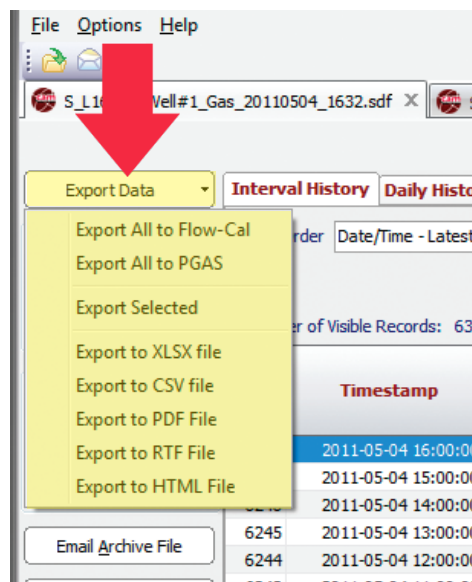

Figure 3.1—Export Data button and dropdown menu
The **Export Data** button and dropdown menu (Figure 3.1, page 32) act as the gateway for all exporting functions.
3. Click on the **Export Data** button in the left column of the screen and choose **Export Selected** from the dropdown menu (Figure 3.1).
- Click on the **Export Data** button in the left column of the screen and select **Export to...** from the dropdown menu (Figure 3.1, page 32).
2. Click on the **Export Data** button in the left column of the screen and click the desired **Export All as...** selection from the dropdown menu (Figure 3.1, page 32).